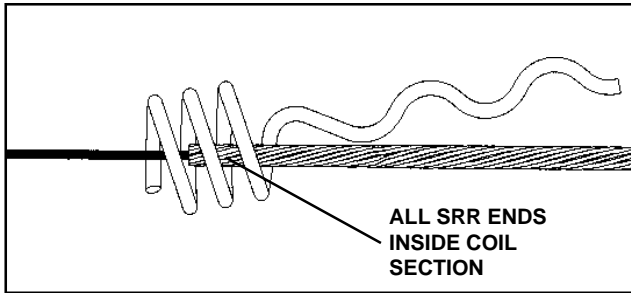

FIGURE 2 - POSITION THE ADSS-CORONA COIL OVER SRR
2.02 Position the ADSS-CORONA Coil so all the ends of the Structural Reinforcing Rods fall completely inside the coil section as shown in Figure 2. Try to align the rods in the center of the coil section, but make sure no metallic rods extend beyond the open end of the coil section. This is critical to the performance of the ADSS-CORONA Coil.